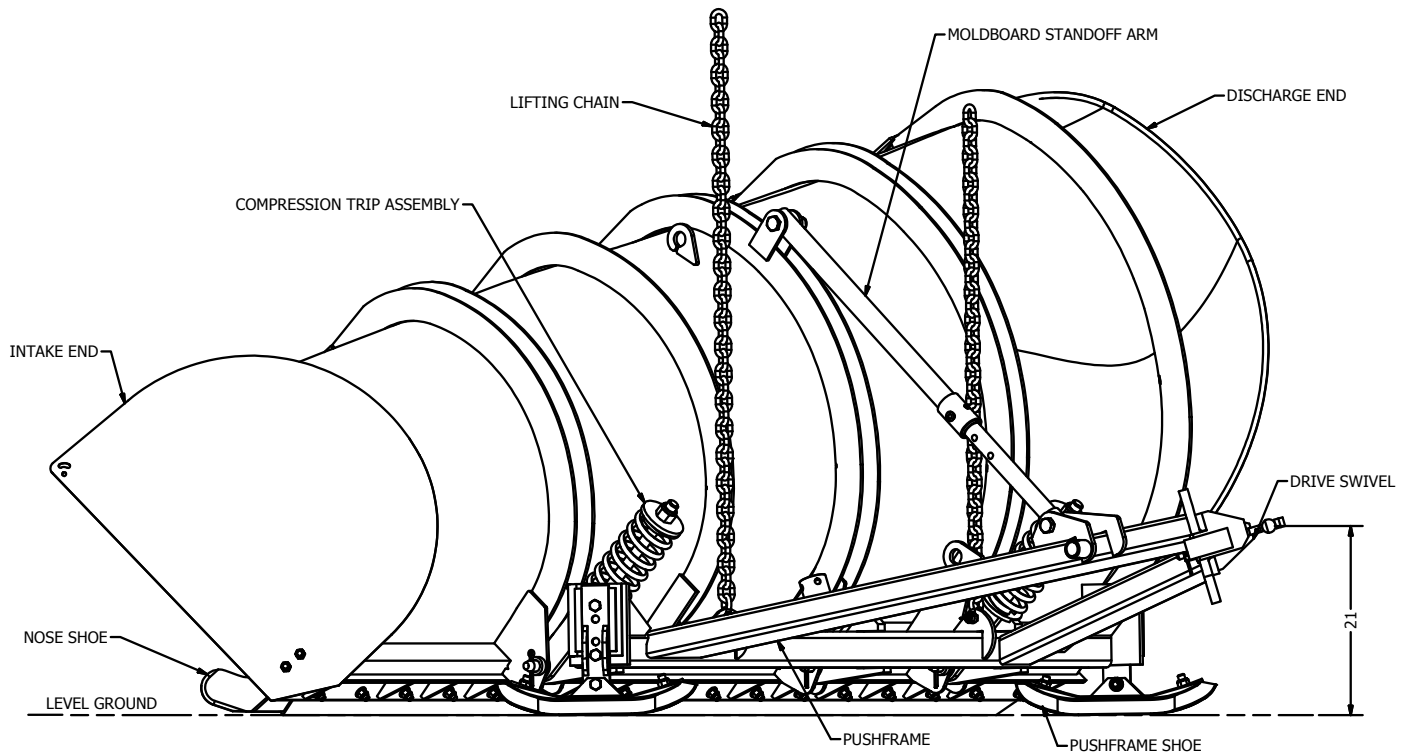

FIGURE 1: VCL ONE-WAY PLOW COMPONENTS
3. The drive lugs of the plow swivel are to be pinned to the set of mounting holes in the vehicle push-plate which are closest to 21 inches +/- 1.5 inches, as shown in Figure 1.), greater height variances should be corrected prior to plow hookup. Before measuring push height, it is important to ensure that the plow unit is properly ballasted. If the plow is equipped with a Quick-tack swivel, drive height will have been pre-selected for you.